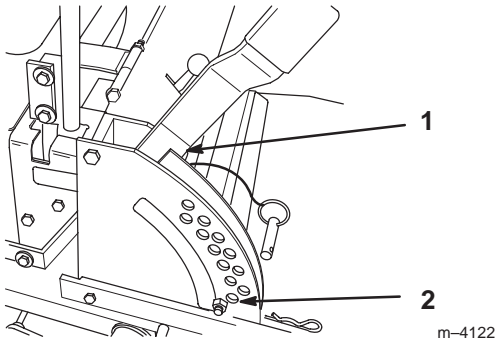
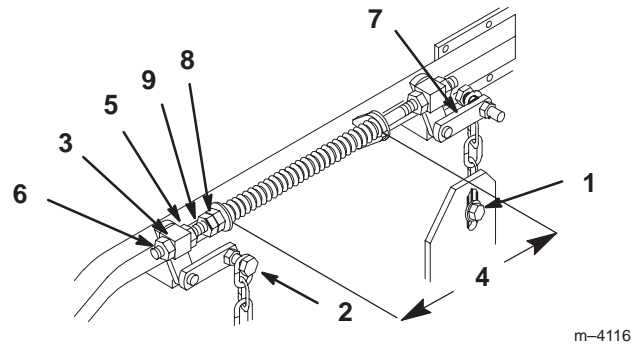

Figure 41
Figure 42
2. Check tire pressure of all four (4) tires. If needed, adjust to 13 psi (90 kPa)
4. Raise the deck to the transport position (Fig. 41). Take force off of the two large deck lift springs by loosening jam nut and front spring nut, in front of each spring, as far as possible (Fig. 42).
- Place two 1-1/4" (35 mm) thick blocks under rear left and right lower edge of mower. Place one 1-3/8" (44 mm) block under front center lower edge of mower. Not under anti-scalp roller brackets. Lower mower to the 1-1/2" (38 mm) height-of-cut position (Fig. 41).
- Loosen bottom chain bolt in slot at rear of deck. Repeat for opposite side. (Fig. 42).
- Loosen front and rear locking nut on either side of front swivel. Loosen until front chains are loose and deck is supported by blocks. Repeat for opposite side. (Fig. 42).
- When hardware is loosened, remaining tension in the large support springs will tend to rotate the deck lift handle up, out of the 1-1/2" position. Press down on the rear deck support arm to firmly return the deck lift handle to the 1-1/2" position (Fig. 42).
- While continuing to press down on rear deck support arm, take the slack out of the rear chain and tighten hardware at the bottom (Fig. 42). Downward pressure may now be released. Repeat for opposite side.
- Raise deck lift lever to the transport position (Fig. 41).
- Adjust compression springs by turning the front spring nuts so the distance between the two large washers is 10-1/4" (260 mm). Then tighten jam nut (Fig. 42).